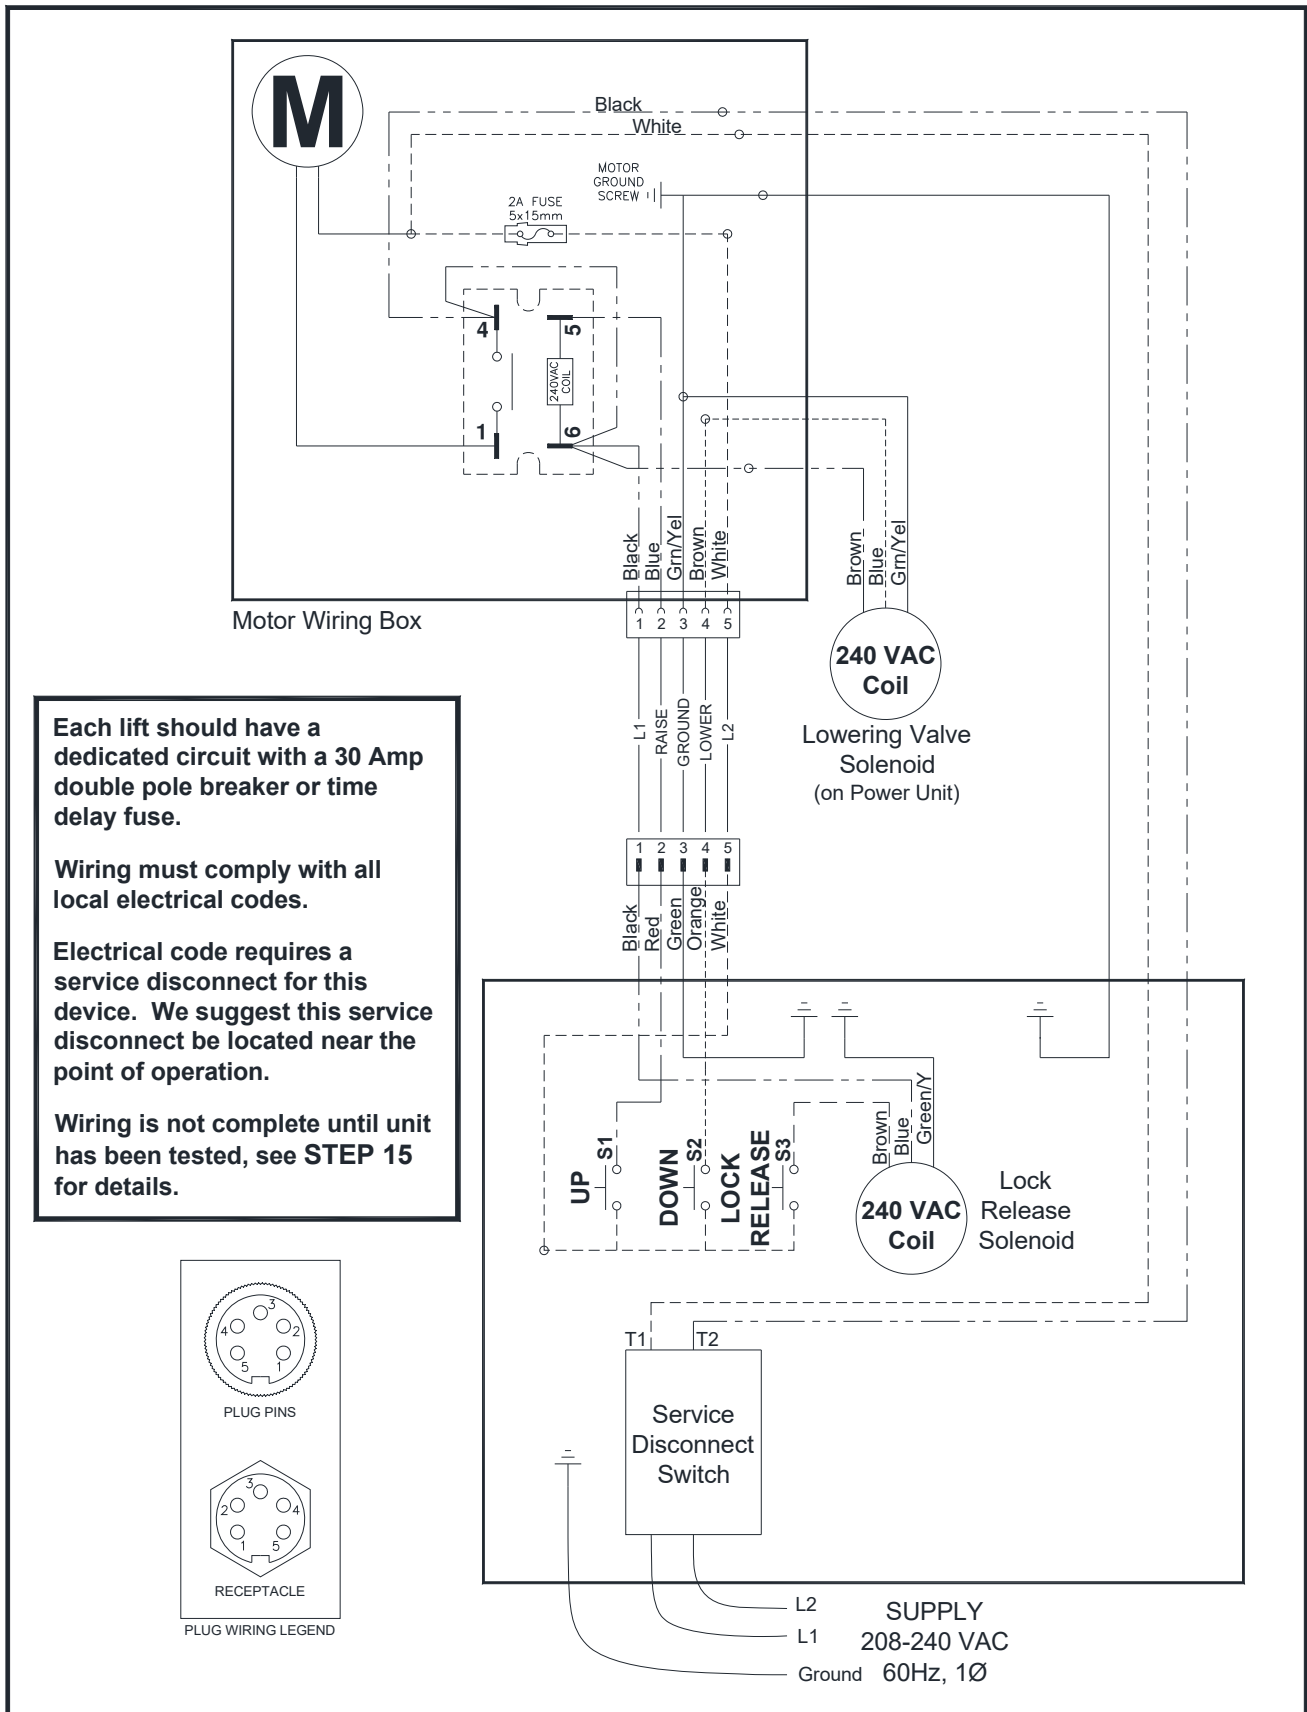

Fig. 11 – Electrical Wiring Diagram
- 9) Connect Power Unit to suitable electrical source as shown in Fig. 11.